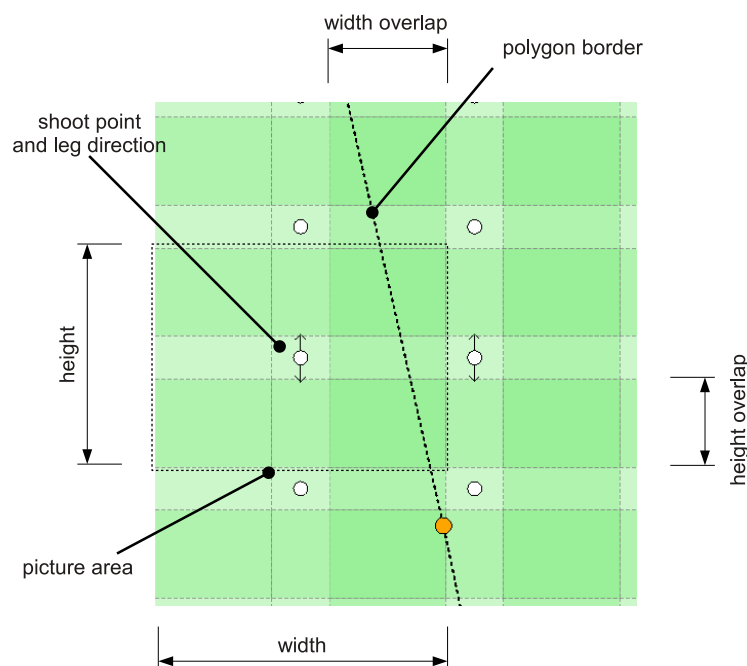

Figure 6: Definitions of overlap, width, height, leg direction and shooting point.
- **Overlap height** defines the nominal picture overlap between the two pictures in one leg. Figure 6 illustrates the definitions. The larger the overlap is, more pictures will be needed to cover the area, while small overlaps may lead to *white spots*.